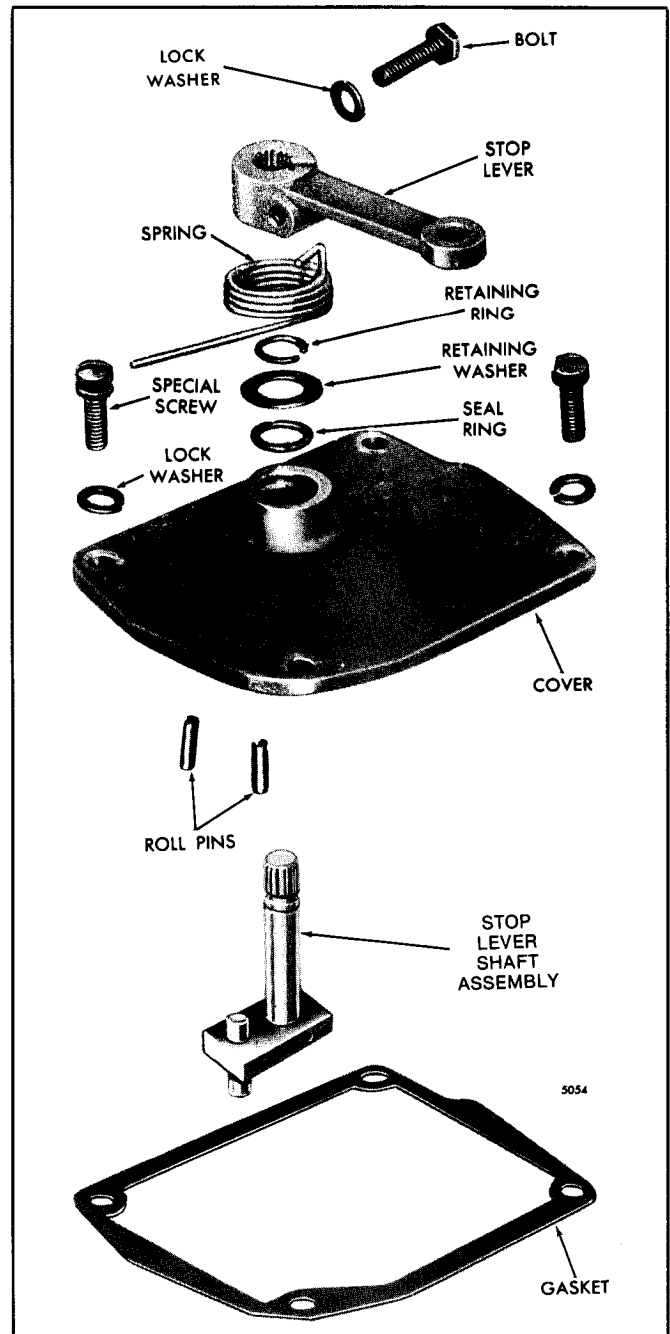

Fig. 2 - Governor Cover Details and Relative Location of Parts
3. Remove the retaining ring and seal retaining washer. Withdraw the throttle shaft from the cover (Fig. 2).